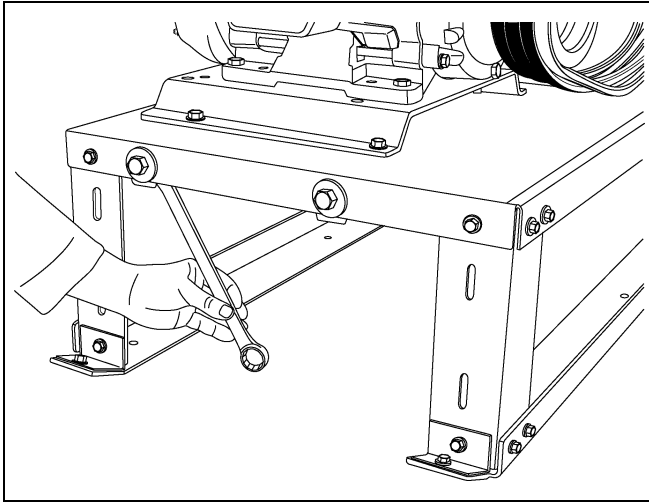

Figure 7J
8. Keeping the motor in proper alignment is necessary and can be accomplished by using an open end wrench to turn the nut on the take-up bolt closest to the rear of the motor. This nut is located behind the flange of the blower base. Adjust if necessary. Tighten the four (4) flange head bolts that secure the motor mounting plate to the blower base. Re-install drive shield. (See Figure 7J.)